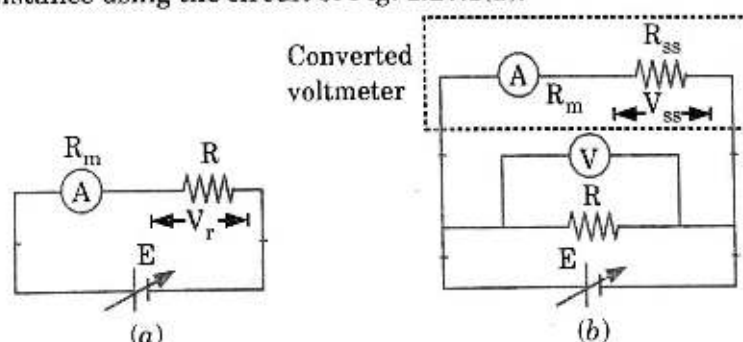

Fig. 1.27.1. (a) Circuit for determination of ammeter resistance, (b) Circuit for using the ammeter as voltmeter.
3. To calculate the series resistance R_{ss} , we first determine the ammeter resistance using the circuit of Fig. 1.27.1(a).